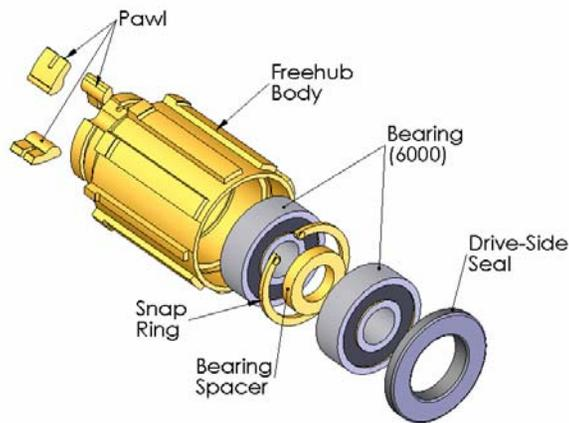

fig. 2
3. With the lever about halfway between the OPEN and CLOSED position [fig. 2], tighten the quick release adjusting nut on the opposite end of the quick release axle until finger tight.